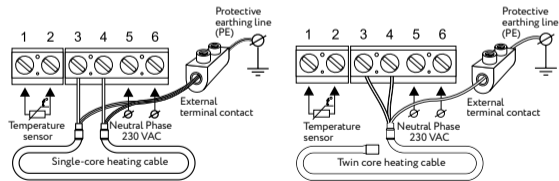

Fig. 3
The leads of the heating section or mat are connected terminals 3 and 4; the shielding braid lead (yellow-green) is connected to the protective earth (PE) line via external terminal contact (Fig. 3).